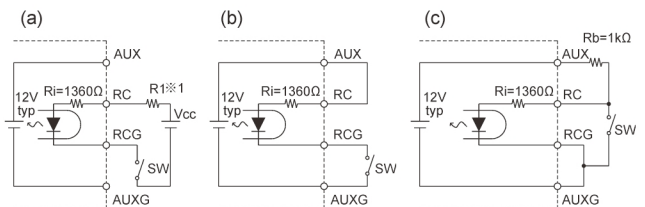

Fig.1.3 Examples of connecting method for remote ON/OFF
■ The remote ON/OFF function can be operated by sending signals to CN3. Please see Table 1.2 and Table 1.3 for specifications and Fig.1.3 for connecting examples.
① The output stops when a current flows to RC.
② The current flow to RC is a 15mA max.
③ If the output voltage is turned off through the remote ON/OFF circuit, the WRN signals and the PG signals keep "Low".
④ Description in this section is based on the assumption that you will use one unit alone. If you are planning to use the units in parallel operation or use multiple units for a single system, please check necessary voltage and current values.
Table 1.3 Specifications of remote ON/OFF (Case of Fig.1.3)